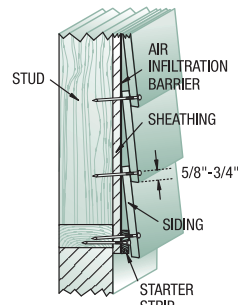

FIG. 4
- Although not recommended, where 24" o.c. vertical framing is used, wood-based sheathing is required. Follow product specific nailing pattern (See Fig 4) and nail to framing 24" o.c. with intermediate nailing 12" o.c. to sheathing.
- For **Standard Lap** products overlap successive courses at least 1." See Fig 4.
- Nail lap products 5/8" to 3/4" above the drip edge. Be sure nails penetrate through both pieces of siding and into studs. See Fig 4 & 5.